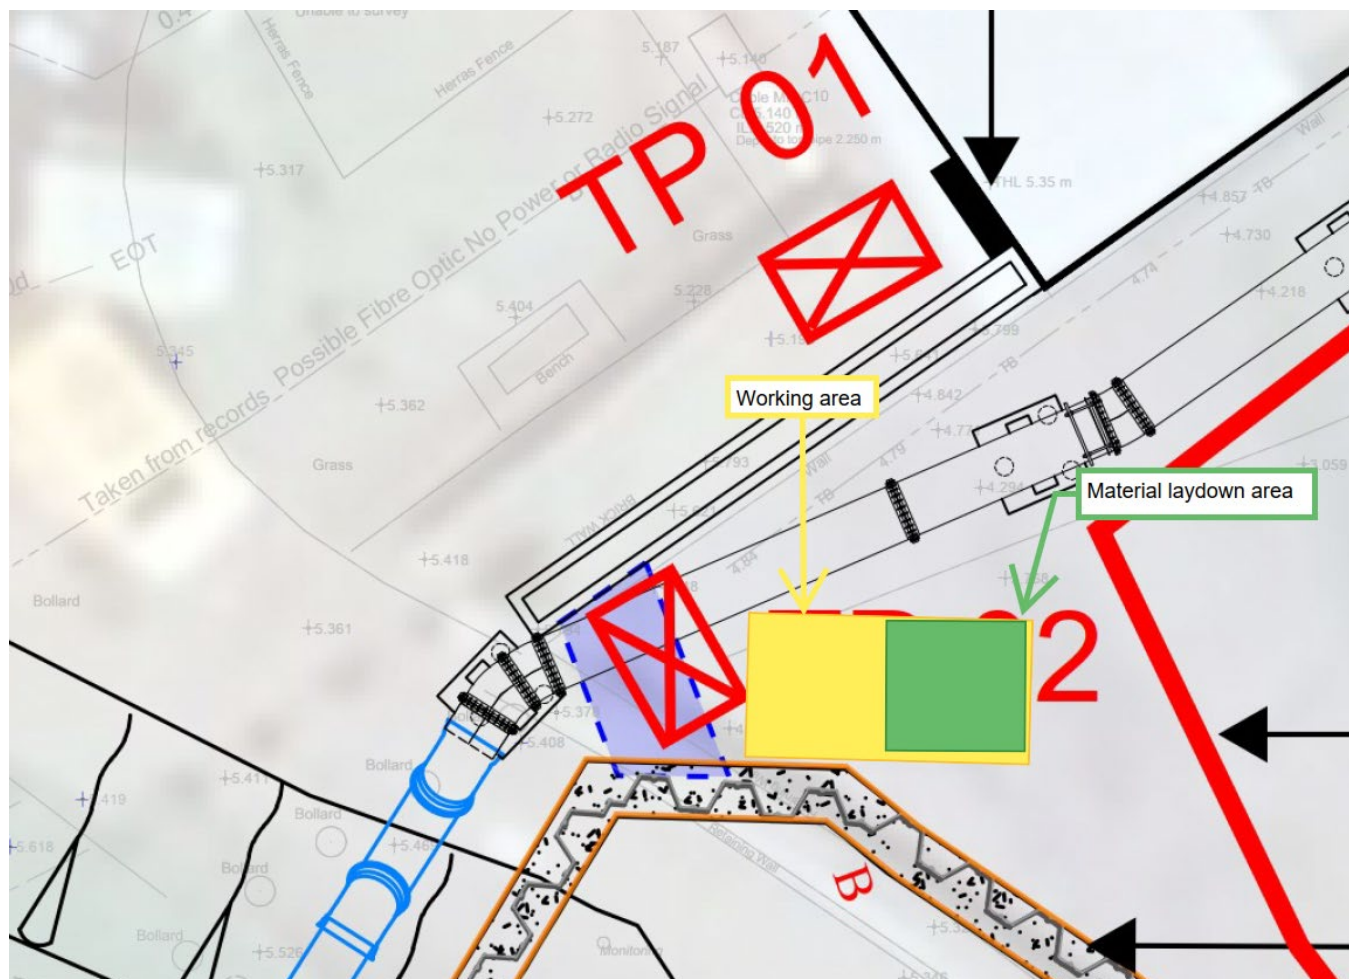

Figure 2, Zoomed in location plan of the scour protection works with working area marked up
- All armour stone and will be loaded into the FTD at the loading area and transported across the beach and tipped into the material laydown area as highlighted in figure 2, the transportation of the material will be below the MHWS.